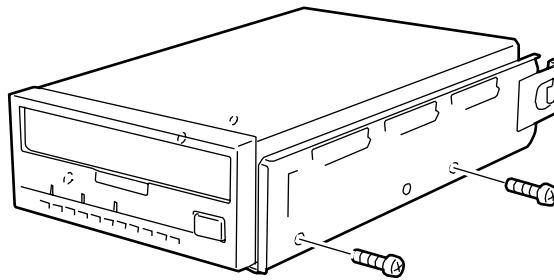

Figure 4-45. Securing the backup Device to the Device Carrier
16. Secure the backup device with the four screws included. Tighten two screws on each side. See Figure 4-45.